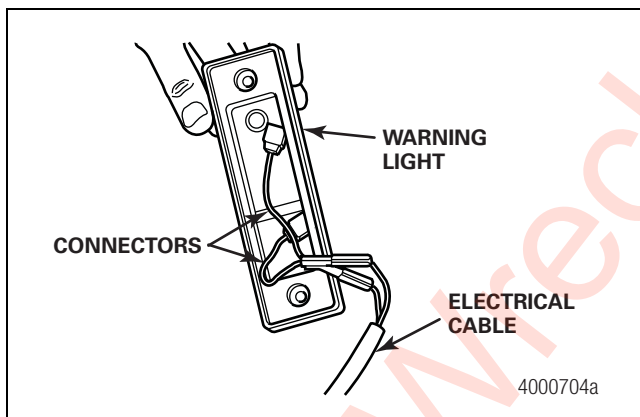

Figure 2.66
2. Connect the warning light to the wiring harness. The standard wire harness is shipped as a single assembly consisting of a black and white wire with spade terminals on one end that connect to the control box, and bullet terminals that connect to the warning light. Figure 2.66.